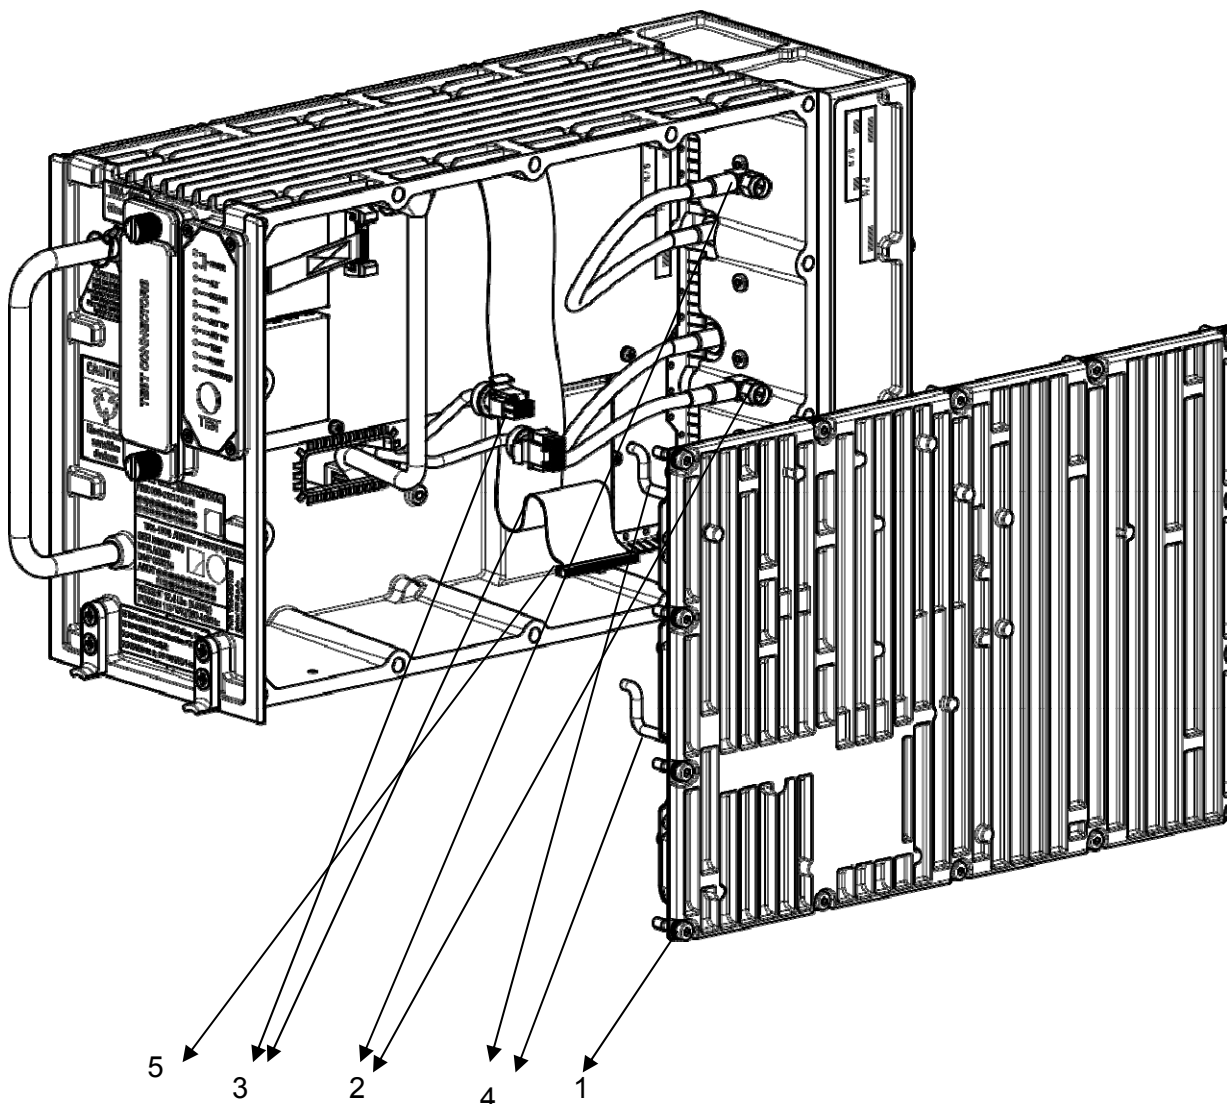
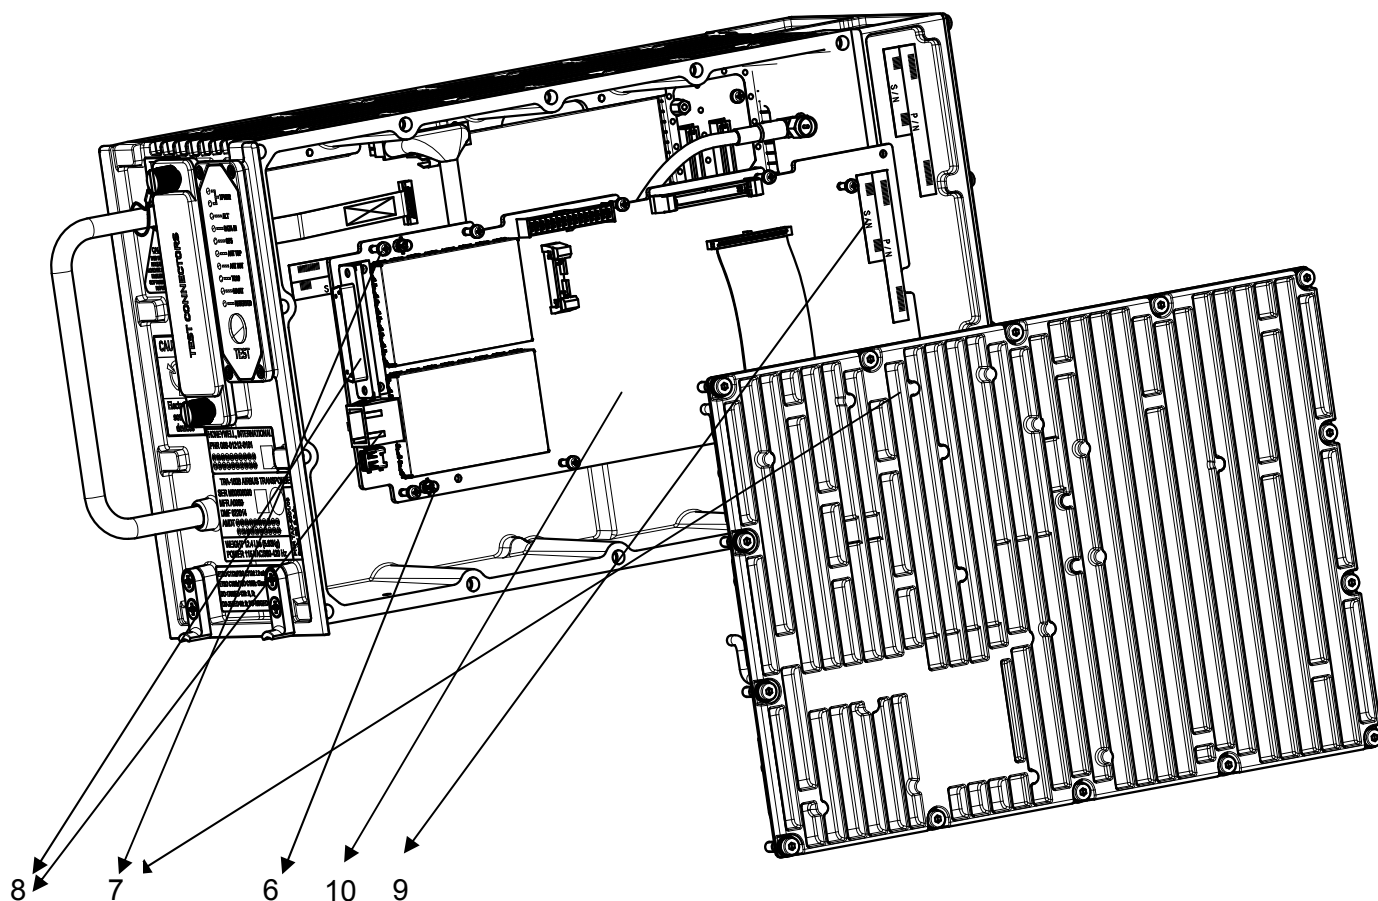
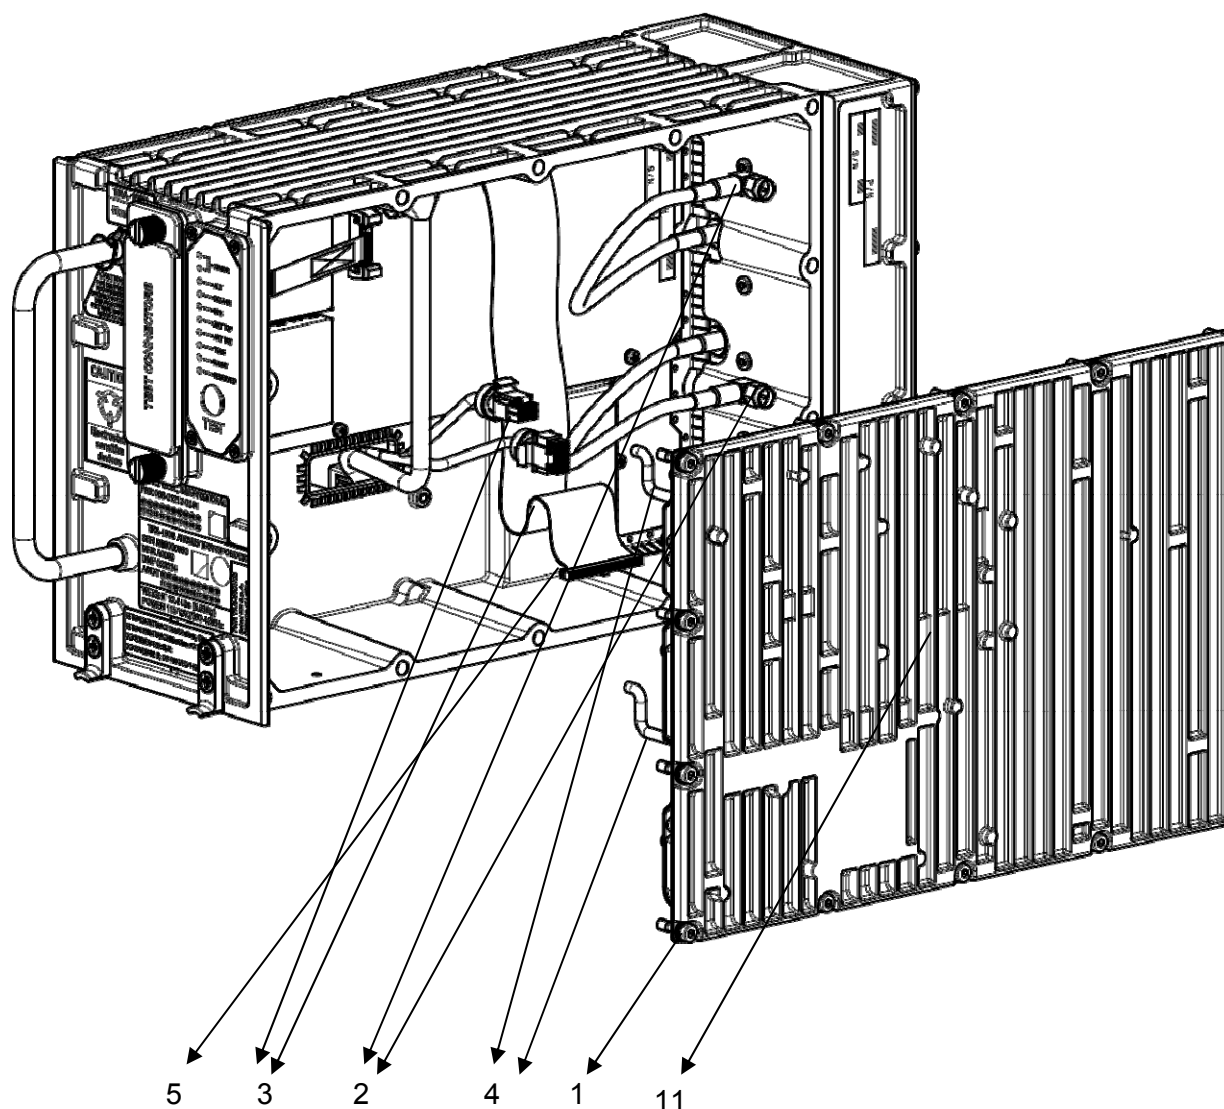

Figure 8-1 – TRA-100B, Data Processor and I/O – Replace procedure
Figure 8-2 – TRA-100B, Data Processor and I/O – Replace procedure (position)
Figure 8-3 –TRA-100B, RF Subassembly – Replace procedure
- 1.1) Removal Transponder cover (right side) unscrewing the related M2,5 fourteen crosshead screws using a torque screwdriver bit holder and appropriate bit (1). (Figure 8-1, Figure 8-2)
- 2.1) Install Data Processor and I/O Module. (Figure 8-1, Figure 8-2)
- 1.1) Follow the procedure to remove the Data Processor and I/O module (Para. 8.4.1). (Figure 8-3, Figure 8-2)
- 2.1) Install the RF Subassembly. (Figure 8-3, Figure 8-2)